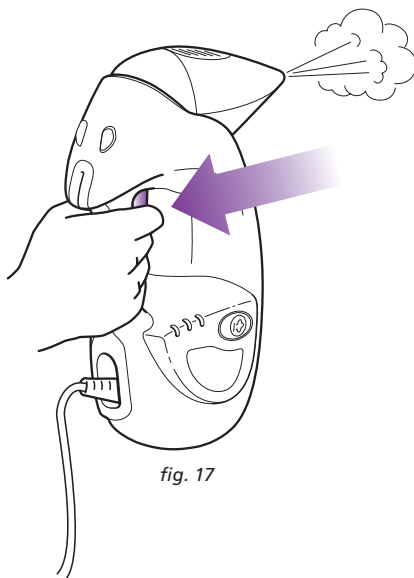

fig. 17
- 3 The Handheld Steamer is automatically set to SCRUB mode. Squeeze the steam trigger to activate steam. To change modes press the **ON/STEAM SETTING** button to select either DUST, MOP or SCRUB mode. You can change the steam mode while the Handheld Steamer is in standby or in use. Once the selected setting indicator light has turned blue, hold down the steam trigger to start steaming. (fig. 17)